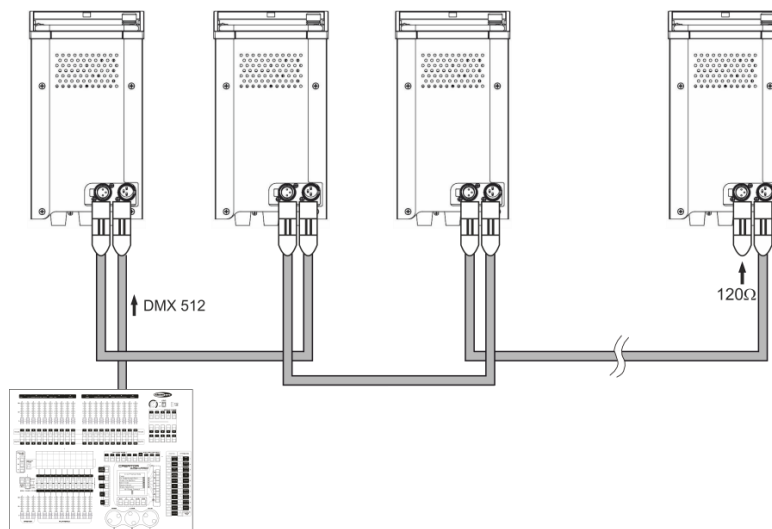

Fig. 04
- 03) Link the units as shown in (figure 04), connect a DMX signal cable from the first unit's "out" socket to the second unit's "in" socket. Repeat this process to link the second, third, and fourth units. This means that you can set your desired operation mode on the master device and all slave devices will react the same as the master device.